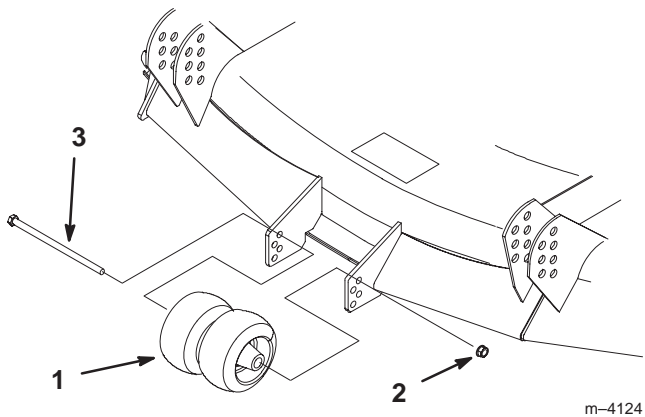

Figure 10
1. After adjusting height-of-cut remove bolt and nut (Fig. 10).
2. Select a hole position so the gage wheels are 3/8 inch (9.5 mm) off the ground for the height-of-cut to be used (Fig. 10).
3. Reinstall the bolt and nut (Fig. 10).